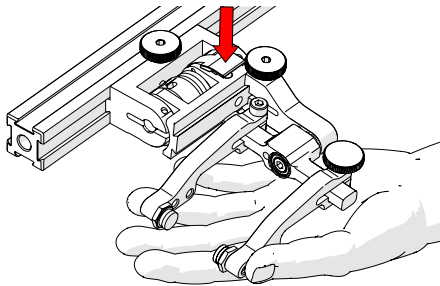

Fig. 76 - Lift slightly and press latch
2. Lift probe holder slightly and press the latch button (Fig. 76) to release the probe holder the full 45° degrees.